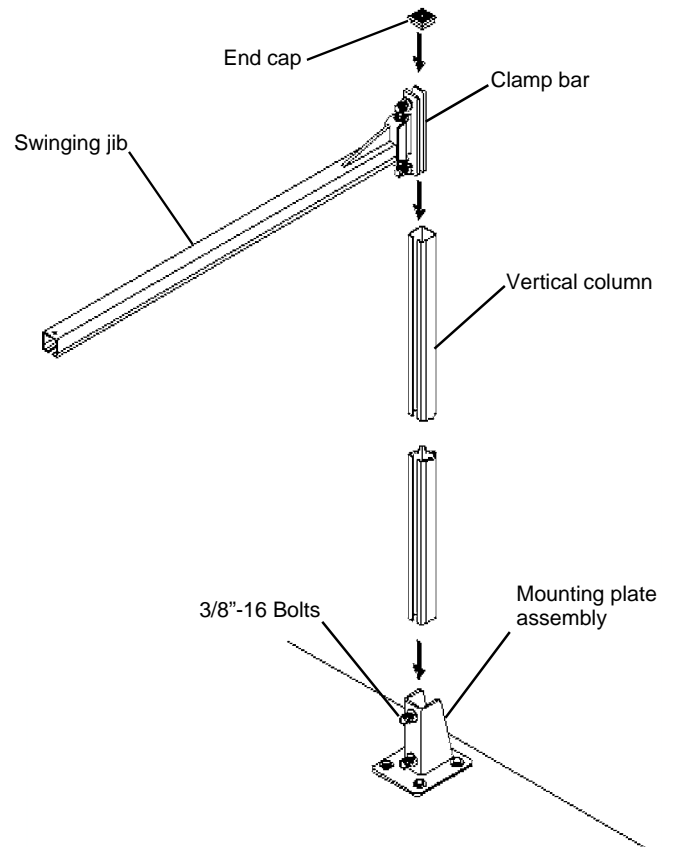

Figure 4
3. Loosen the clamp bar inside the Mounting Plate assembly, insert the **Vertical Column** and then tighten the clamp bar. See **Figure 4**.
4. Insert the **Jib Assembly** into the top of the Vertical Column and position it at the desired vertical height. Lock it into place by securely tightening the 3/8"-16 bolts and then install the **End Cap**. See **Figure 4**.